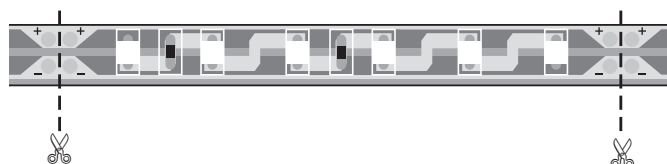

Figure 1
2. Shorten LED board if necessary (Fig. 1).
LED boards can be disconnected in each case after **six** LEDs (20 mm) (Fig. 1).